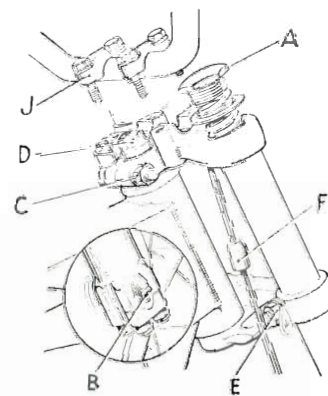

FIGURE 29.
The only servicing which the front forks require is renewal of the oil at regular intervals (see "Routine Lubrication", page 27). First release the handlebar clamps (J) and lift the handlebars off the yoke (FIG. 29).
Unscrew the nuts (A) FIG. 29, and the drain plugs in the lower end of the fork sliding members as shown at (B). Allow all the oil to drain out, then standing stride the machine, apply the front brake and depress the forks a few times to drive out any oil remaining in the system.
Slacken the clamping nut (C) FIG. 29, then gently tighten down the cap nut (D) below the handlebars until only a trace of play is present. Hold the handlebars lightly and move them round slowly. The steering must be free, and the forks must rotate smoothly. If the movement is harsh it is a sign that the adjustment is too tight or that the bearings are damaged. When the adjustment is correct, tighten the clamping nut (C). Recommended torque wrench settings are: cap nut (A), 50–55 lb. ft.; clamp bolts (E), 23–25 lb. ft.